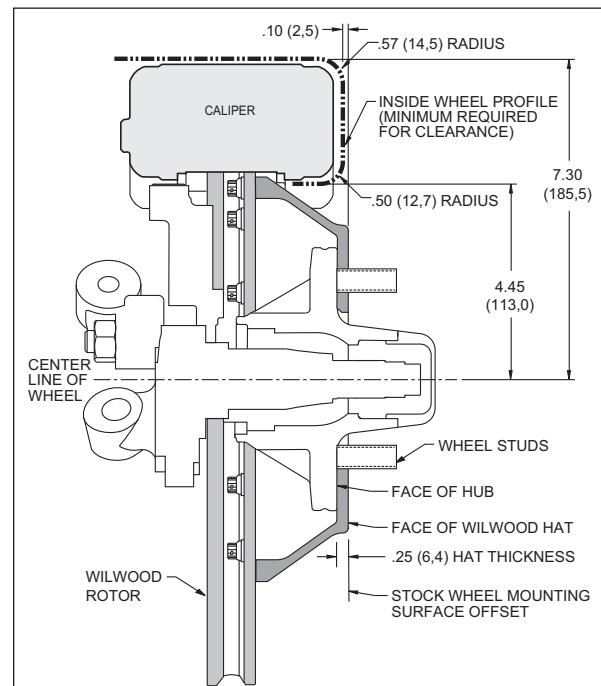

Figure 2. Wheel Clearance Diagram
- Review the wheel clearance diagram (figure 2, page 4) to verify that there is adequate clearance with the wheels you will be using with the installation.
• Verify your wheel clearance using figure 2.